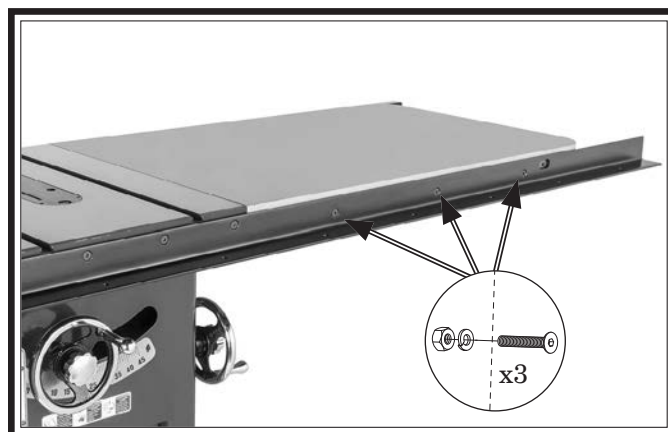

Figure 24. Front rail fastener locations.
3. While assistant holds extension table, fasten front rail to extension table with (3) M8-1.25 x 25 flat cap head screws, (3) 8mm lock washers, and (3) M8-1.25 hex nuts (see **Figure 24**). Do not fully tighten hex nuts.